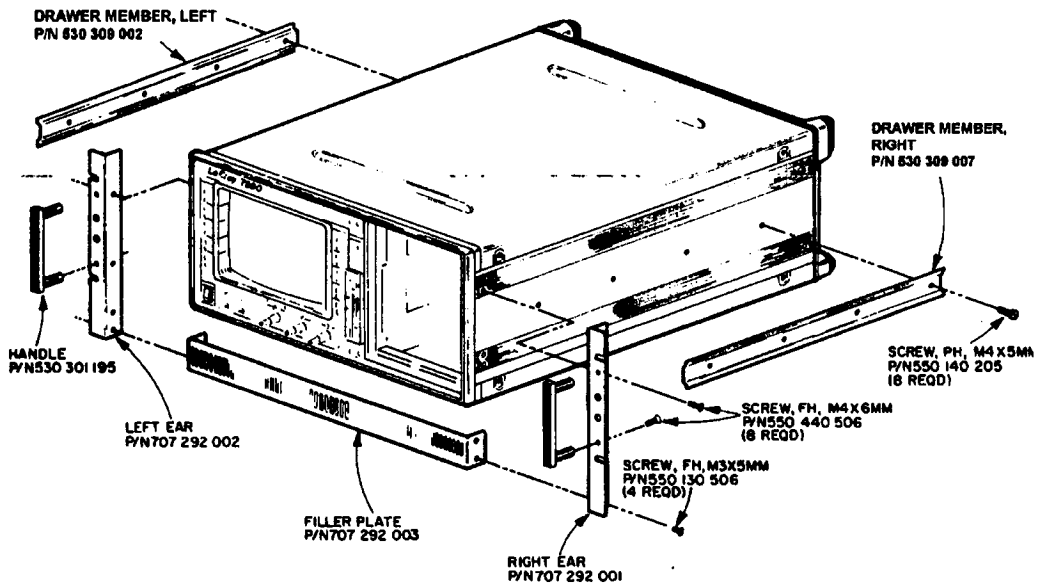

Figure 3: 7200 Preassembly
4. Install drawer members of the slides to both side panels as shown in Figure 3. Also mount filler plate, handle, left ear and right ear.